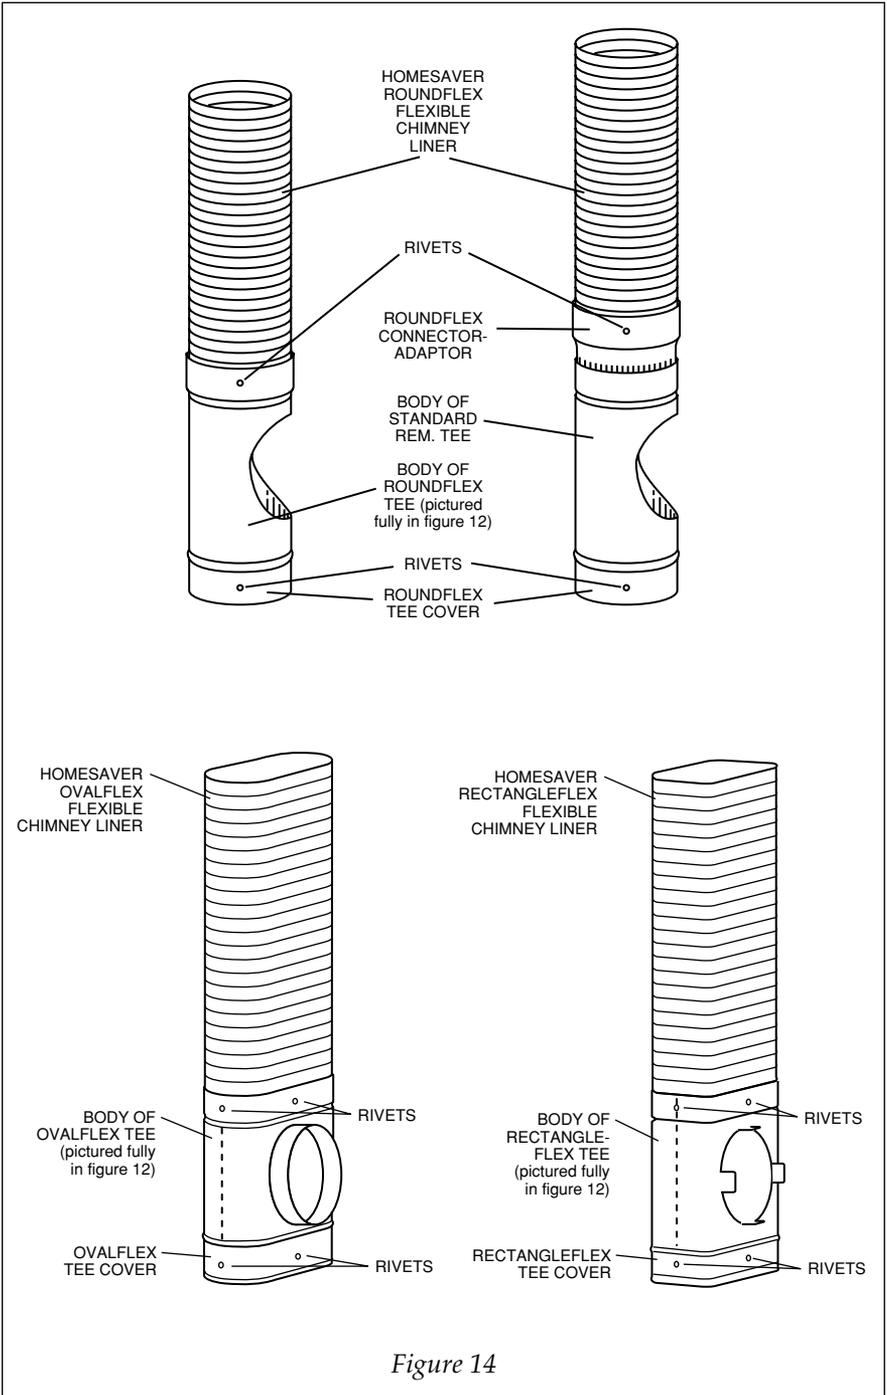

Figure 14
A Flex connector-adaptor (figure 9) is needed when connecting two pieces of HomeSaver Flex or as an optional method of terminating into a Heat-Fab Tee (figure 14, page 17).
8. Take your length of HomeSaver Flex liner and install the Flex tee to it by fastening in four places (figure 14).
Note: In a RoundFlex application, an alternative to using a HomeSaver Flex tee is to use a Heat-Fab Tee (with or without a removable take-off) in conjunction with a Flex connector-adaptor (figure 14). On 9" – 12" diameter HomeSaver RoundFlex the only tee available is a Heat-Fab Tee without a removable take-off. Thus you'll always need a connector-adaptor when joining 9" – 12" Flex to a tee.